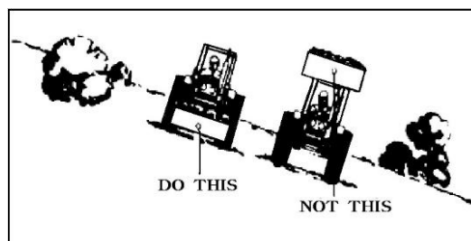

Fig .4.4. Driving on hillside.
- Operating the loader on a hillside is dangerous. Extreme care is recommended shown in figure 4.4.